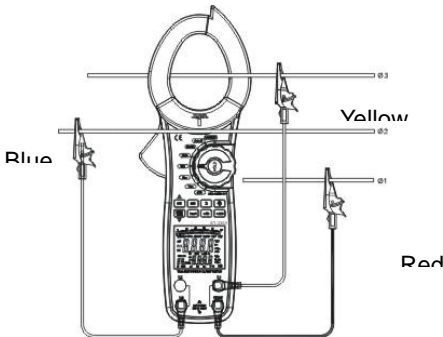

Figure 15
- When measuring 3 phase 3 wires, Hold **SEL** for 5 seconds and the Meter show **3 ϕ 3W**, press **SEL** again for 5 seconds to exit 3 phase 3 wires ,connecting the Meter as figure 15.
In figure 15 $\Sigma W = W2 + W3$.